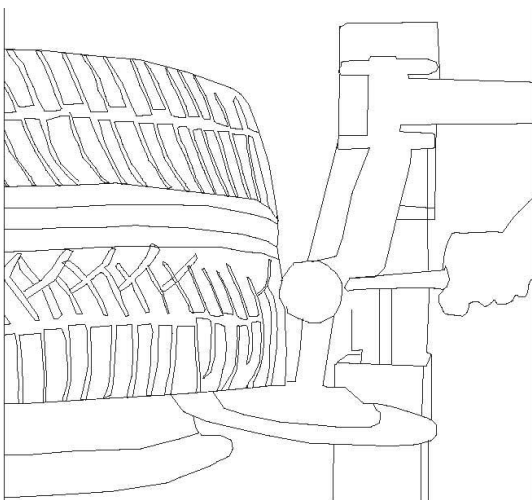

Figure 6-3
3). Help hold the lower part of tire up If the lower part of tire is too hard to be moved up, you can use disk to hold the tire up and rotate the tire, then the downside of tire can be hold to the surface of the rim, you can insert a shaft to dismantle the rim of the tire. (Figure 6-3)